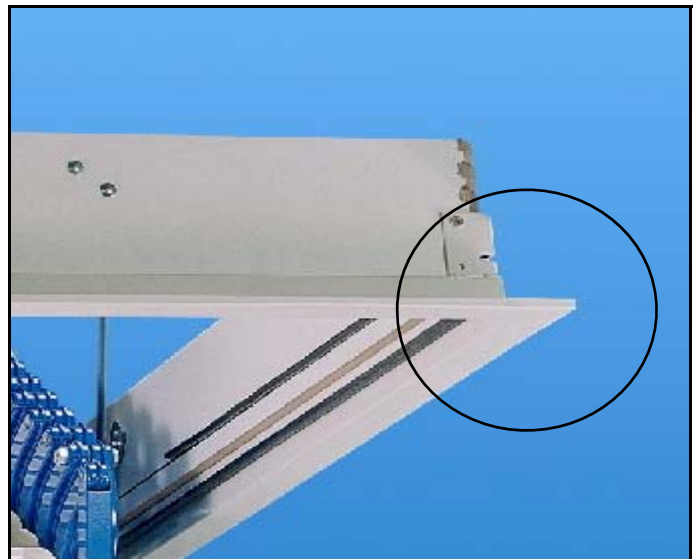

Figure 2
1. Mark out the rough opening size for your unit according to TABLE A. *Note that the finished metal trim extends about 2" beyond the rough opening when the unit is installed (Figure 2). Allow clearance for this on all four sides.*